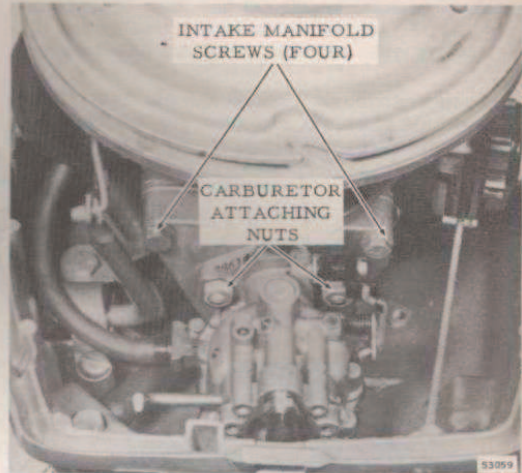

Figure 3-3. Carburetor Attaching Nuts
- d. Disconnect fuel hose at carburetor. See Figure 3-3.
- e. Remove carburetor by removing the two attaching nuts. See Figure 3-3.
- f. Remove four intake manifold capscrews. See Figure 3-3. Remove manifold, gaskets and leaf